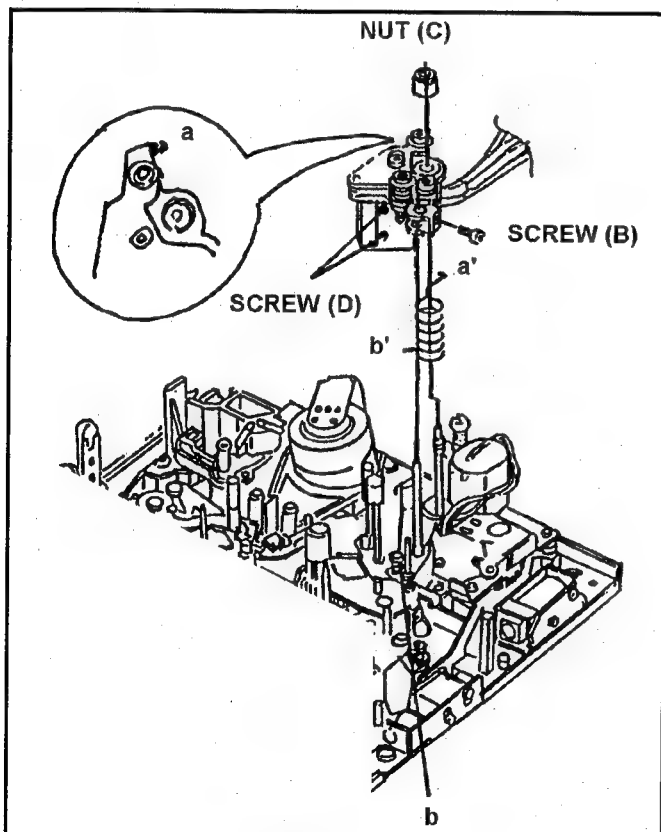

Fig. 10-2-3 Removal of A/C Head Unit
3. Loosen the **hex. screw (B)** and remove the **Nut (C)**. Pick up the Head Height Adjustment Spring and then remove the A/C Head Unit as shown in Figure 10-2-3.
5. Remove **2 screws (D)** to remove the Shield Cover as shown in Figure 10-2-3.